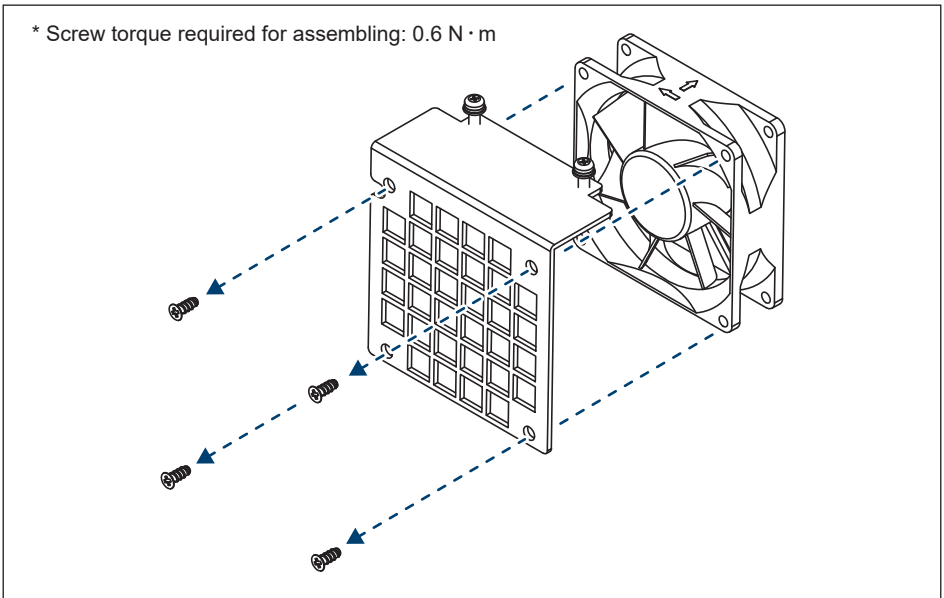

Figure 5-15: Replace with a new fan
- (3) Lift the entire fan assembly. (**Figure 5-15**)
- (4) Clean assembly or replace with a new fan.
- (5) Reassemble by using $0.8 \text{ N} \cdot \text{m}$ tightening torque.